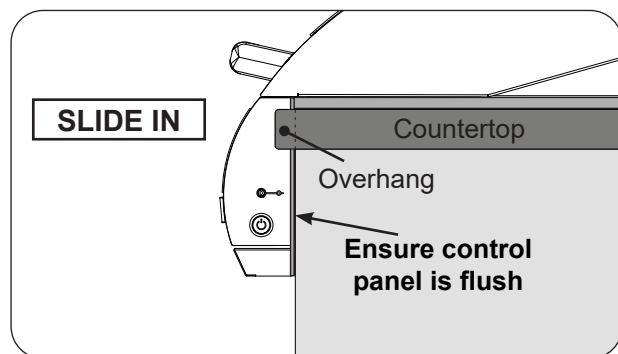

Fig. 23-3 Slide in unit (ensure flush)
- Ensure the unit fully slides in so that the control panel sits flush against the enclosure front wall. See the COUNTERTOP OVERHANG section in ENCLOSURE REQUIREMENTS for details. See Fig. 23-3.